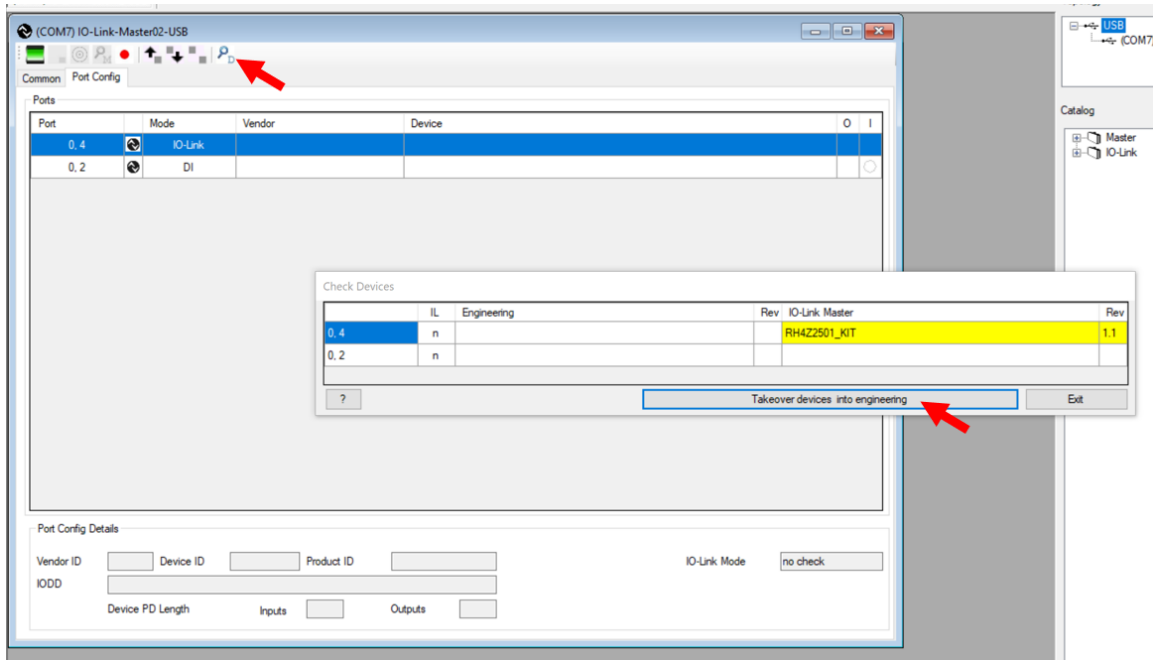

Figure 12. New Device Takeover
- d. Re-run a device detection by clicking on the loop and then on 'Takeover devices into engineering', see Figure 12.